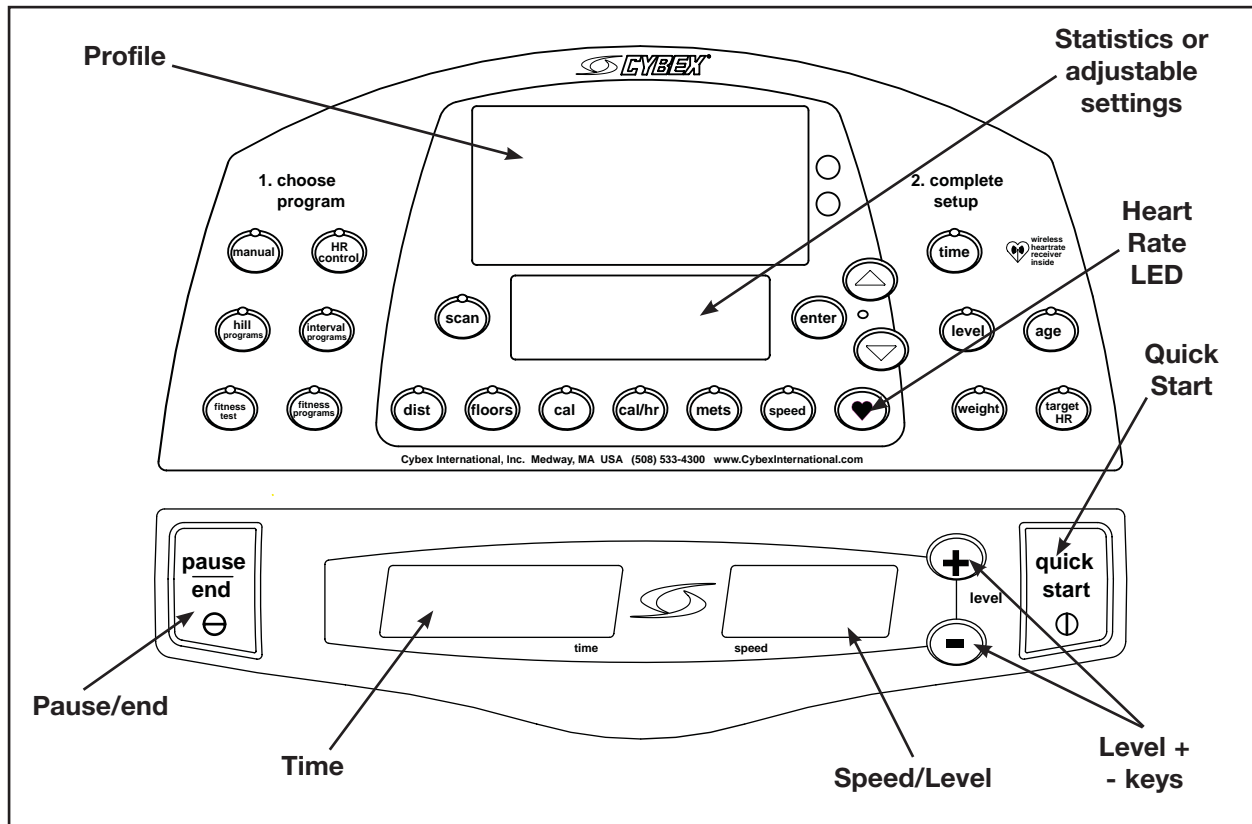

Figure 1
4. Observe the four displays (See Figure 1):
NOTE: Heart Rate is scanned only when you are holding the contact heart rate grips or using Polar compatible heart rate transmitter. See Figure 1.